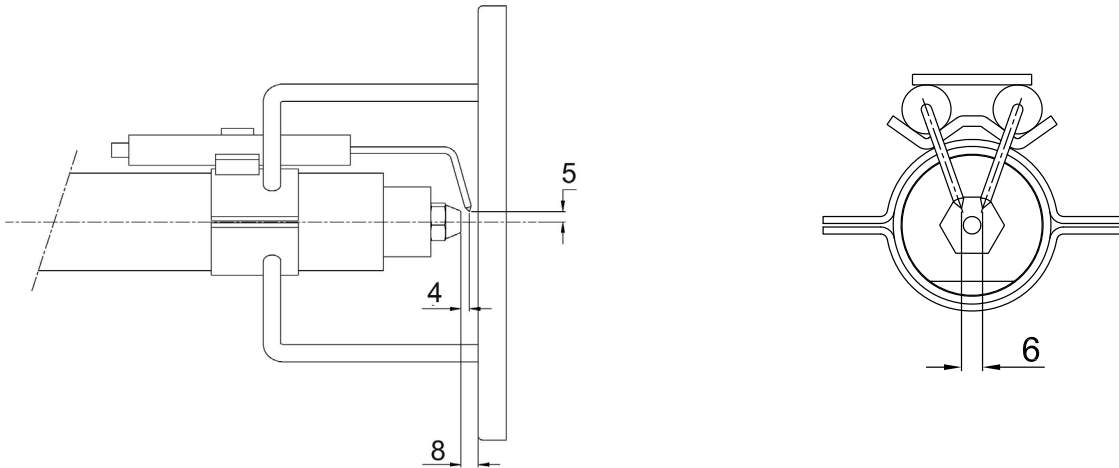

Fig. 16
To guarantee a good ignition the measures shown on the next picture Fig. 16 must be observed.
- 4 loose screw (B) that fasten the ignition electrodes;
- 5 remove the electrodes and replace them, referring to the values quoted on Fig. 16.